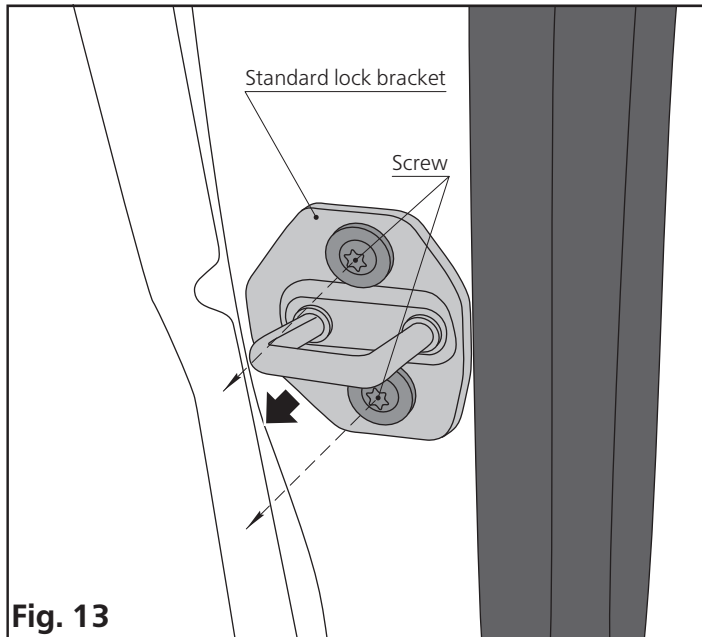

Fig. 13
1. Remove the standard lock bracket by unscrewing the two standard bracket mounting screws (Fig. 13).